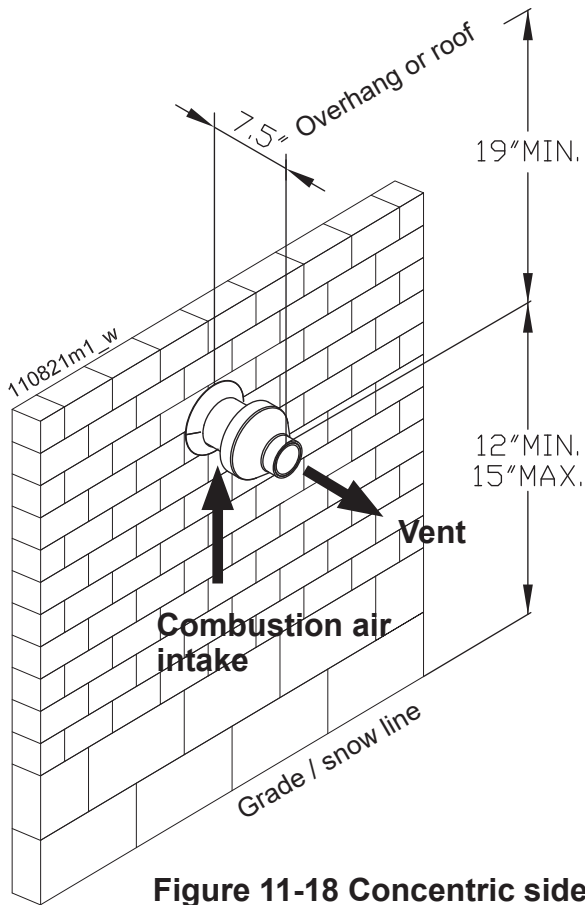

Figure 11-18 Concentric sidewall termination clearances
The termination kit must terminate outside the structure and must be installed as shown in Figure 11-18.
- 1.- Determine the best location for the termination kit (see Figures 11-18 and 11-19);
- 4.- Cut one (1) hole 5 inch diameter into the structure to install the termination kit;
NOTICE! Ensure termination location clearance dimensions are as shown in Figures 11-18 and 11-19.